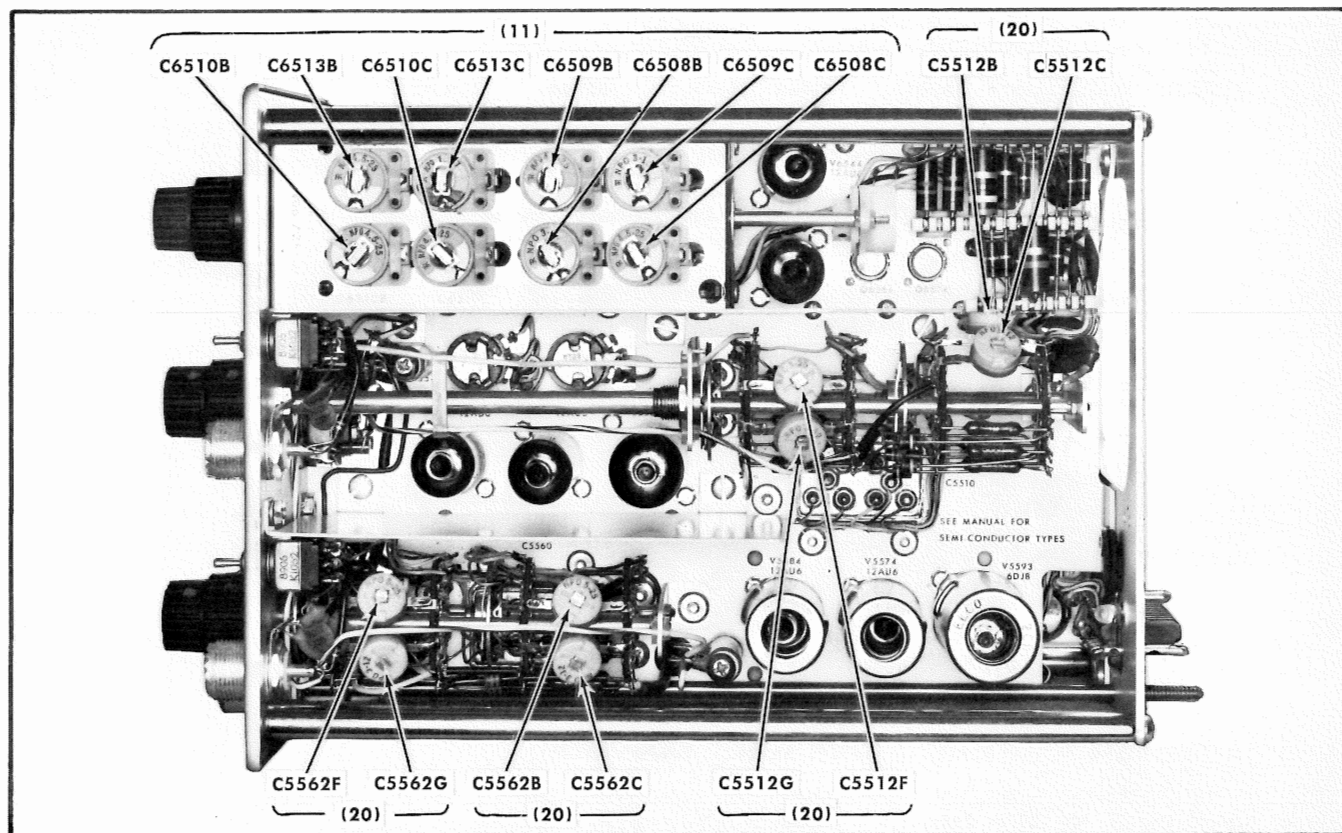

Fig. 7-4. Location of calibration adjustments. Numbers in parenthesis refer to steps in adjustment procedure. Applies to O Units SN 101 and up.
d. Using Table 7-4 as a guide, set the VOLTS/CM switch to the positions given in the table and adjust the indicated capacitors. Adjust the "B" capacitors for optimum flat top, and the "C" capacitors for optimum square corners. Fig. 7-4 (11) shows the location of the adjustments. When using Table 7-4, remove the 10× attenuator and then the 50-ohm termination when necessary to obtain more signal drive. (Use GR to BNC adapter when 50-ohm termination is removed.) Maintain a display amplitude of about 3.5 cm during the adjustment procedure.